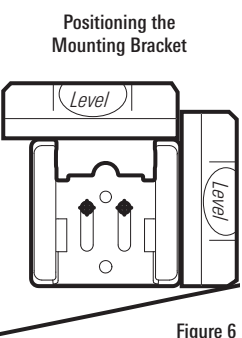
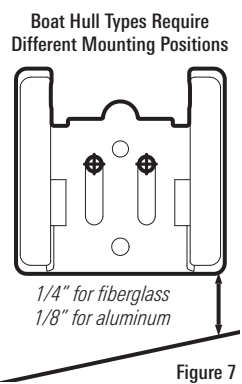

Figure 6
Figure 7
2. Hold the mounting bracket against the transom of the boat in the location you have selected (Figure 6). Align the bracket horizontally, using the level. Make sure that the lower corner of the bracket does not protrude past the bottom of the hull, and there is at least 1/4" clearance between the bottom of the bracket and the bottom of the transom for fiberglass boats, and 1/8" clearance for aluminum boats (Figure 7).